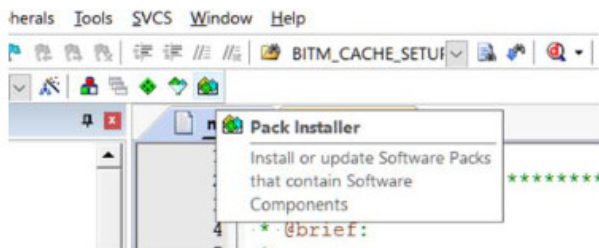

Figure 6. Pack Installer
1. Open the CMSIS pack installer as shown in Figure 6. When the pack installer is opened for the first time, it may take a few minutes to update the pack installer.